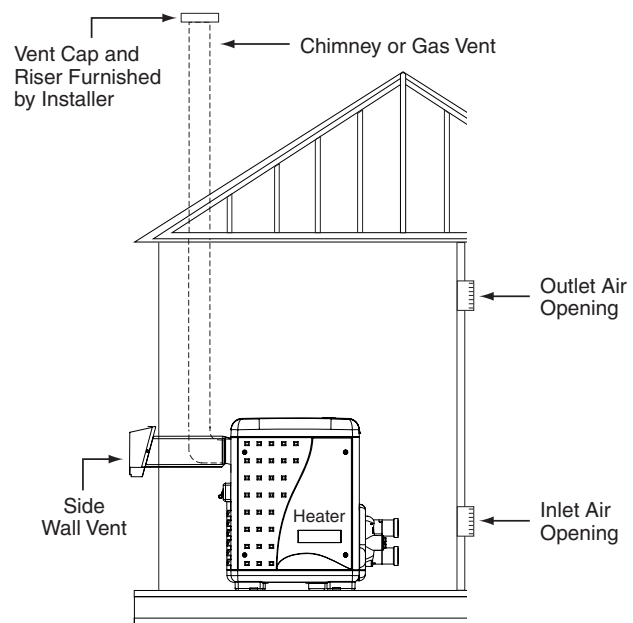

Figure 14.
**HORIZONTAL OR VERTICAL VENTING - POSITIVE PRESSURE** (See Figures 14, 15, and 16)**(Category III)**
6. **Vent Termination – Vertical** (See Figures 14 and 15), for height of vent termination above the roof. Use an "Approved" vent terminal specified by local and national codes and your manufacturer's instructions. A roof termination must be vertical. In Canada, the Vent Cap location shall have a minimum clearance of 4 feet (1.2M) horizontally from electric meters, gas meters, regulators, and relief openings.